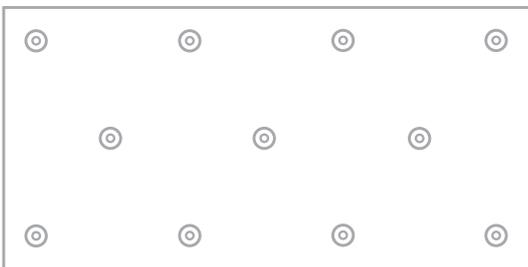

Figure 3 Fastener pattern (11 No. per board)
2. Board joints can be either staggered or squared (see Figures 3 and 4) and taped with 96 mm wide white *Kingspan Insulation Tape*. 4 No. fasteners along each length - no less than 50 mm - no more than 150 mm from edge of board, 3 No. fasteners along the middle (offset from edge positions as per diagram Figure 3).